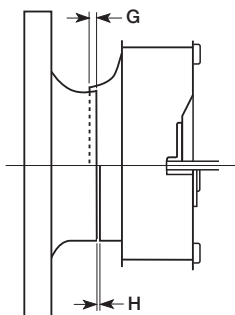

Figure 9
1. **Check all fasteners for tightness.** The wheel should rotate freely and be aligned as shown in Figure 9. Wheel position is preset and the unit is tested at the factory. Movement may occur during shipment, and realignment may be necessary. Centering can be accomplished by loosening the bolts holding the inlet (venturi) panel and repositioning. Wheel and inlet cone overlap can be adjusted by loosening the setscrews in the wheel and moving the wheel to the desired position.